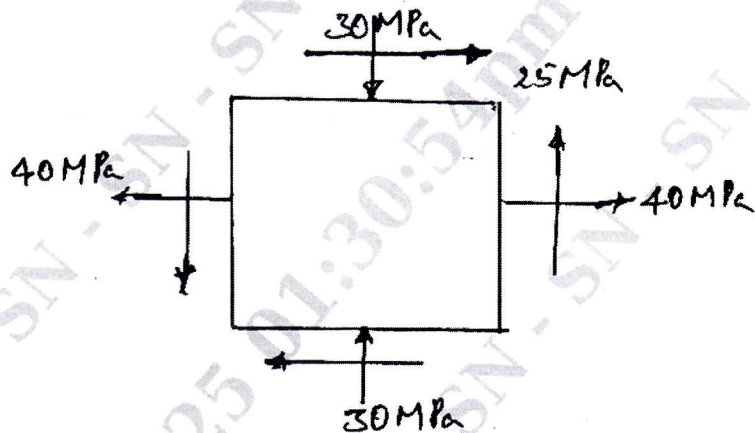

Fig. Q1 (c)
- c. A point in a structural member subject to plane stress as shown in Fig. Q1 (c). Determine